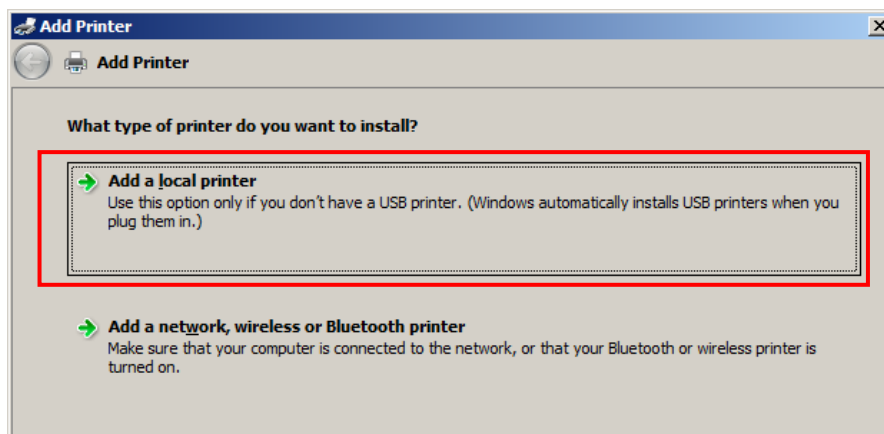

Figure 10.17 – Add Printer dialogue.
- 4) The Add Printer dialogue will start as shown below in Figure 10.17.
- 5) Select "**Add a local printer**". (Figure 10.17)